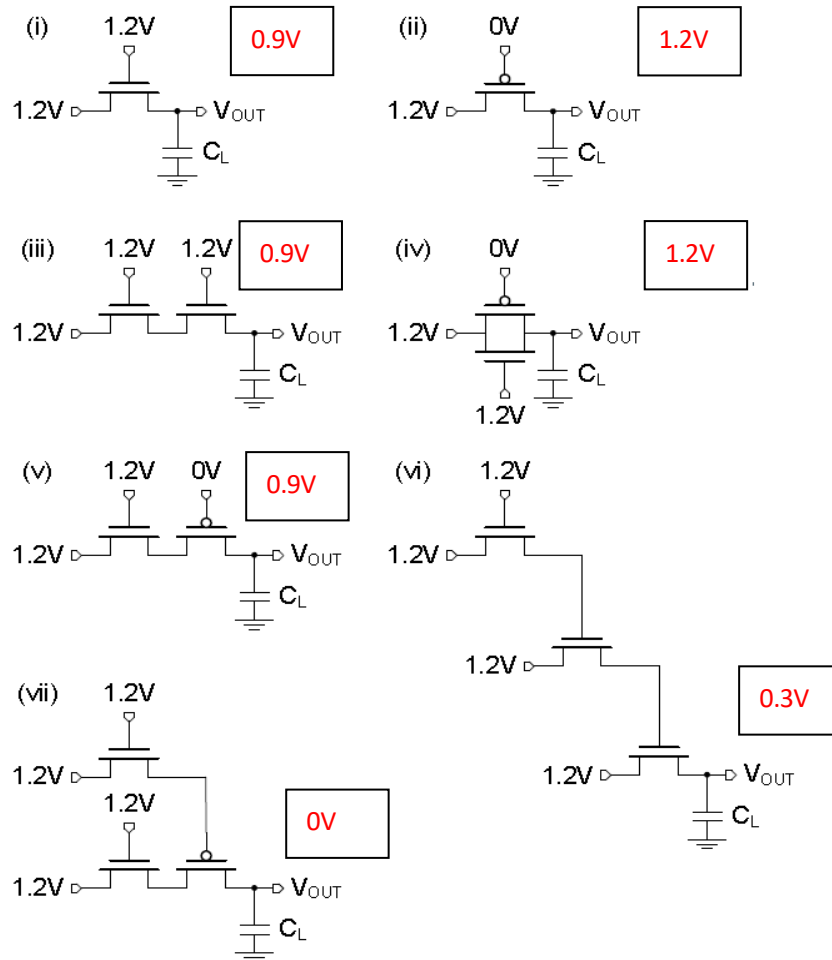

Figure 5.
- a) Find the final value of the voltage V_{OUT} for the various switch logics as shown in Fig. 5. Assume that $V_{TN}=|V_{TP}|=0.3V$, that and the output capacitor, C_L , is initially discharged. Ignore sub-threshold conduction and body effect. All middle nodes are discharged initially. [7 pts]